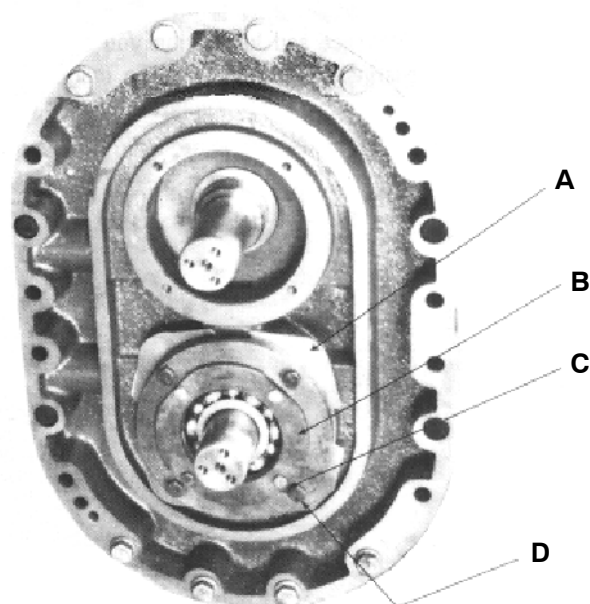

FIGURE 15 - BEARING CARTRIDGE REMOVAL
Refer to FIGURE 15. Shims (A) installed during manufacture will now be exposed behind the bearing cartridge (B). These shims set the end clearance between the impeller and headplate; therefore, it is important that they be returned to their exact positions on reassembly. (NOTE: The number of shims fastened behind each bearing cartridge bolt may vary; be sure each set of shims is identified by position during withdrawal). To remove the shims, remove the bearing cartridge bolts (C). Insert jack screws in tapped holes (D) provided in the cartridge and back out the cartridge until the shims are loose. Remove one attachment bolt at a time, taking out the shims and marking them for accurate repositioning. On removal of all bolts, continue using the jackscrews to complete the cartridge removal. Remove the bearing retainer ring (or clips), from the face of the cartridge.